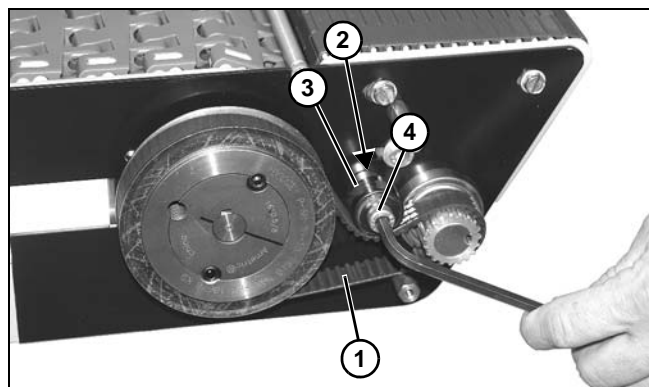

Figure 148
17. Install timing belt (**Figure 148, item 1**) onto transfer tail assembly pulley and driveshaft gear.
18. Push down (**Figure 148, item 2**) on tension pulley (**Figure 148, item 3**) and tighten socket head screw (**Figure 148, item 4**).